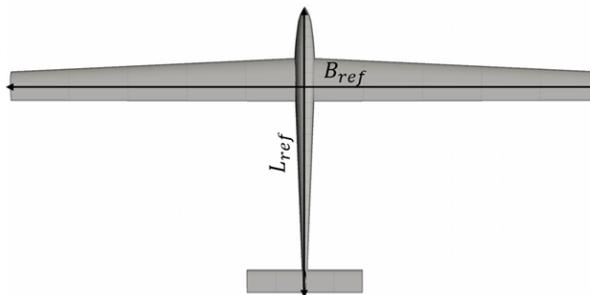

Figure 3.1: Aircraft size requirements.
2. Each airframe size design limitation can be observed in Figure 3.1.